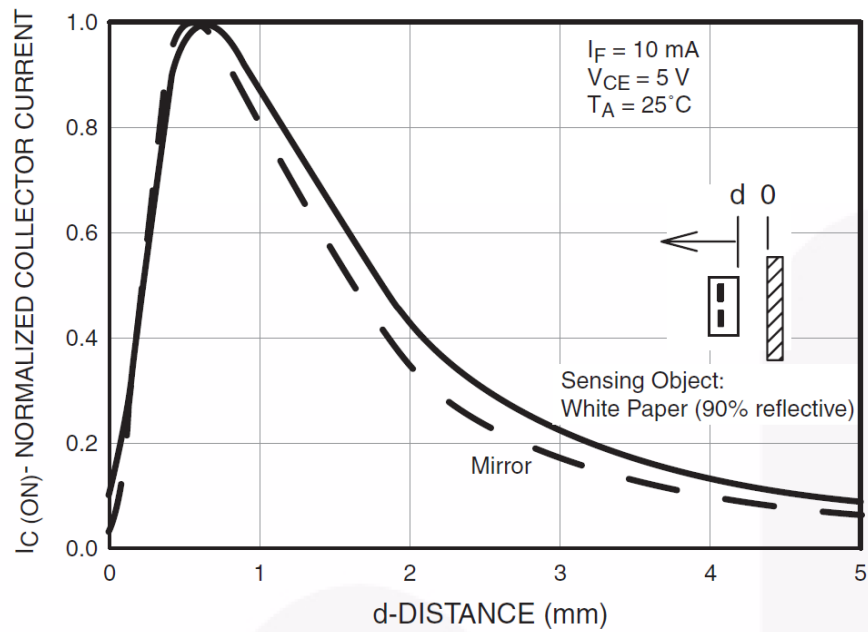

Figure 8: from datasheet for Fairchild QRE1113 Rev 1.7.0, Copyright 2011 Fairchild Corporation
• Detector top to codewheel (See figure 8 below)	NOM 0.5mm (0.020") - 1.0mm (0.039") MIN 0.3mm (0.012") (TBD) MAX 1.7mm (0.067") (TBD)